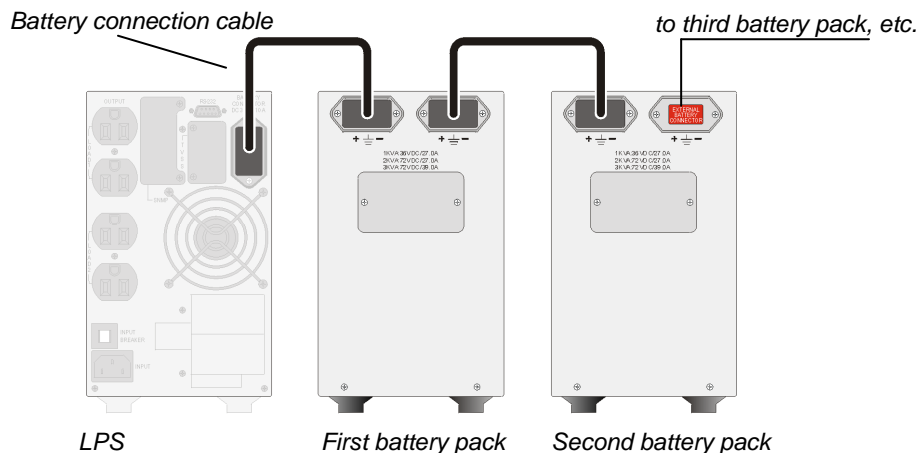

Figure 3 Connecting External Battery Pack(s) to the LPS
2. Utilize the battery connection cable that came with the battery pack to connect the battery pack to the unit, as shown in Figure 3. The other battery pack connector can be used to connect a continuation pack.